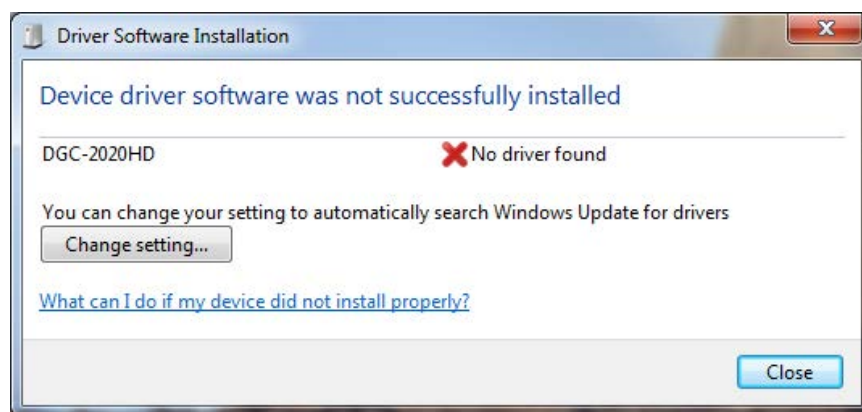

Figure 31. Driver Software Installation
- Step 1. If the message in Figure 31 is shown, close all programs and restart the computer.